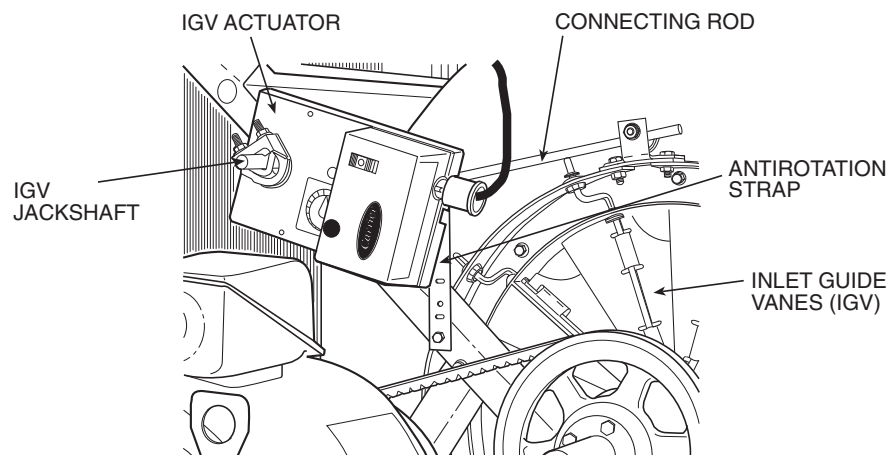

Fig. 12 — IGV Actuator Mounting
9. Install the actuator on the jackshaft and while moving into position, adjust the free end of the anti-rotation bracket so that the pin fully locks into the slot provided in the actuator. Once the actuator is adjusted into position, install the remaining screw into the anti-rotation bracket. See Fig. 12.
1. Refer to Fig. 12. Close the IGVs fully.